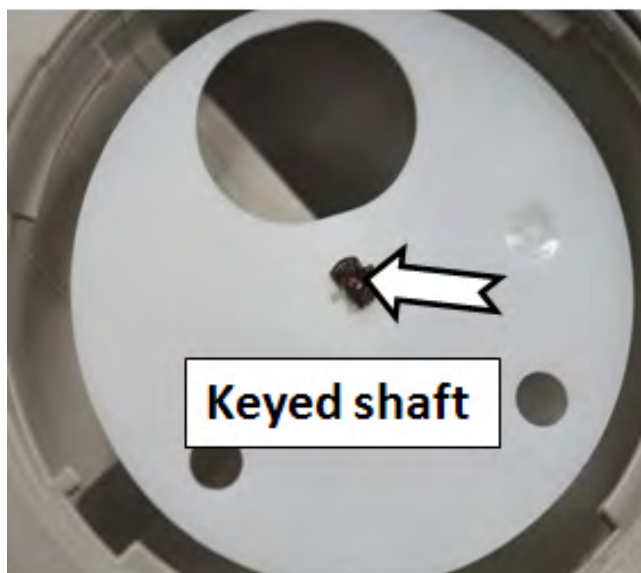

Figure 8
6. The diverter disc attaches to a keyed shaft, see figure 8.